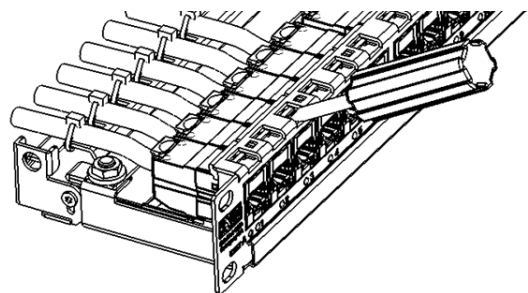

Fig. 10
2. Use screwdriver or similar tool to lift the latch above jack and release jack (See Fig. 10).